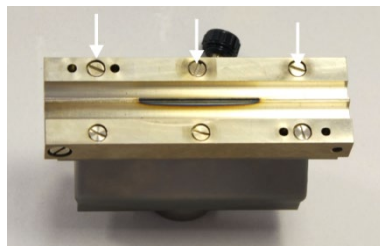

Fig. 44 Screws on the front burner jaw
1. Unscrew the screws from the front burner jaw (arrow in Fig. 44) (the screw for fastening the burner on the connector of the mixing chamber is also located on the side of the front burner jaw).